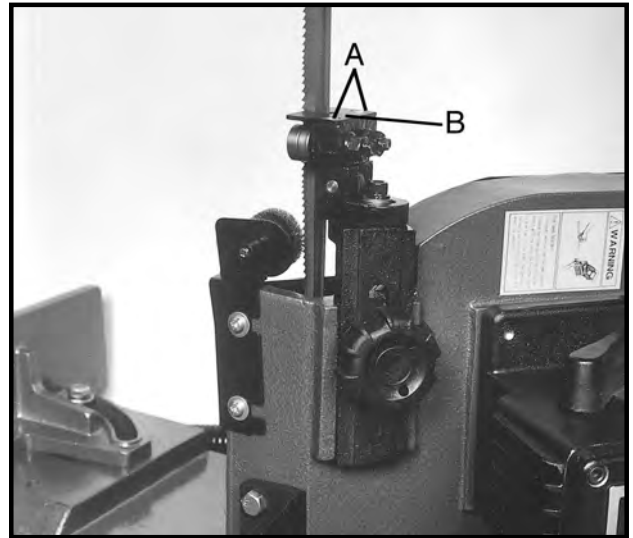

Fig. 17
3. Remove two screws (A, Fig. 17) and remove the deflector plate (B, Fig. 17)